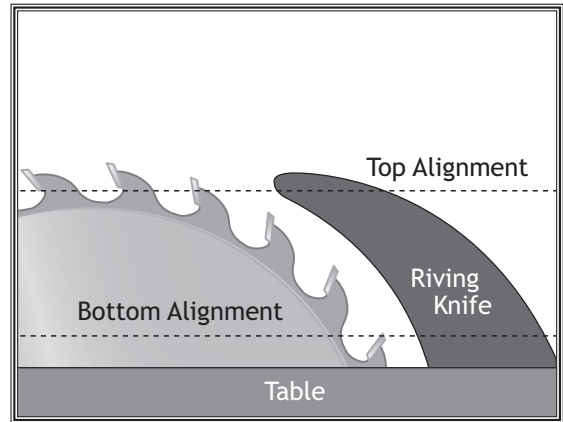
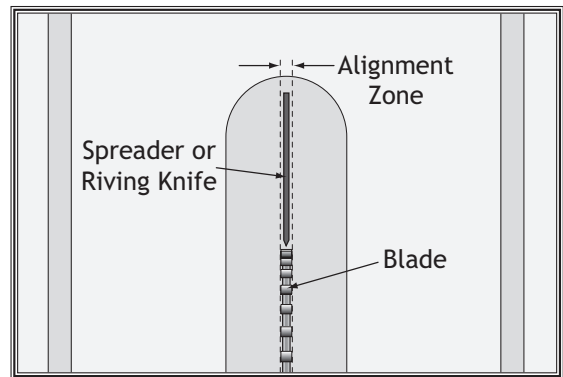

Figure 100. Checking top and bottom riving knife parallelism with blade.
Figure 101. Spreader/riving knife alignment zone.
3. Place the straightedge alternately against the top and bottom of blade and spreader/riving knife, as shown in **Figure 100**. The spreader/riving knife should be parallel with the blade along its length at both positions, and it should be in the "Alignment Zone," as shown in **Figure 101**.